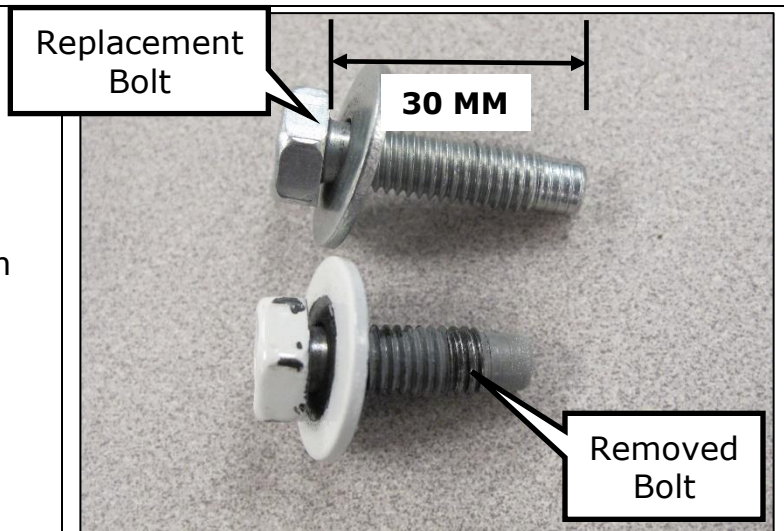

Figure 3
- Verify the replacement bolt is 30mm long from head to end (Figure 3)